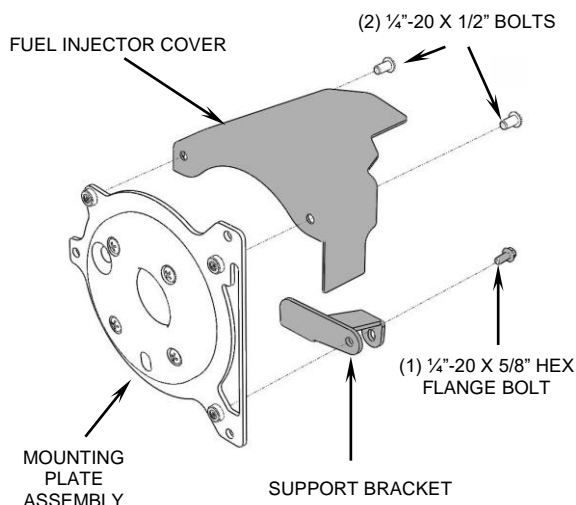
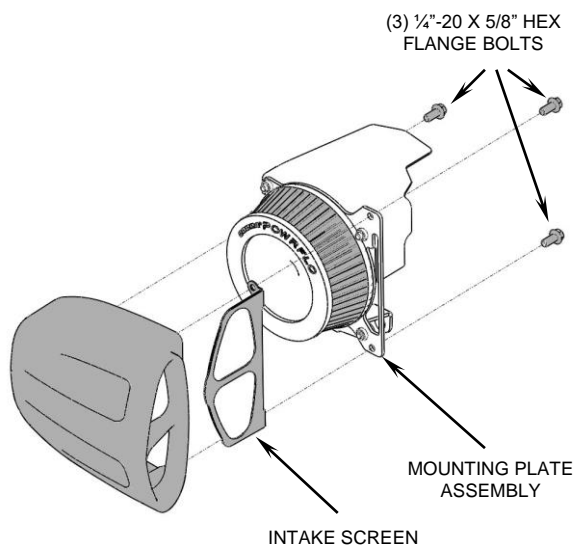

FIGURE 3
FIGURE 4
- Using (2) supplied $\frac{1}{4}$ "-20 x $\frac{1}{2}$ " buttonhead bolts, secure the fuel injector cover to the upper portion of the mounting plate, and tighten. Use a $\frac{1}{4}$ "-20 x $\frac{5}{8}$ " hex flange bolt to attach the support bracket to the lower threaded hole and orientate as shown in Figure 3, but do not tighten.
- Between the two cylinders is a bracket with a welded nut; align the slotted hole in the support bracket with that welded nut, then insert the (1) supplied M6 x 16mm buttonhead bolt.
- Place intake cover over the mounting plate assembly and align the mounting holes to the threaded bosses. Insert the (3) supplied $\frac{1}{4}$ "-20 x $\frac{5}{8}$ " flange bolts and tighten the mounting plate to the intake cover. See Figure 4.